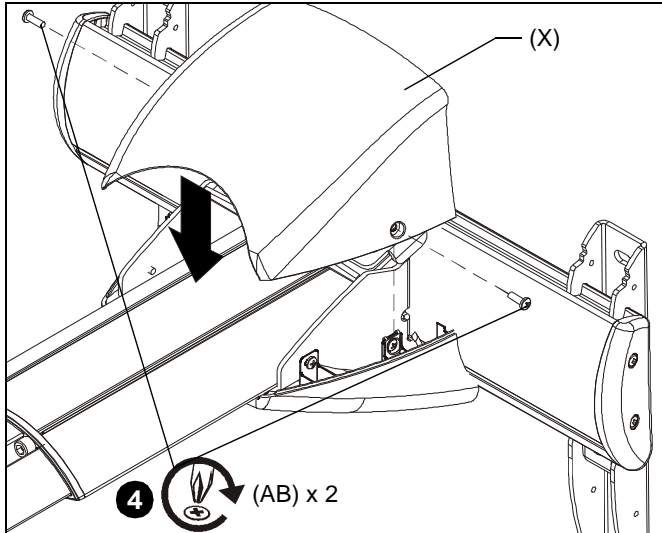

Figure 24
4. Lower the upper cover (X) onto the wall mount and lower cover, and fasten with two 8-32 x 3/8" Phillips pan head screws (AB). (See Figure 24)